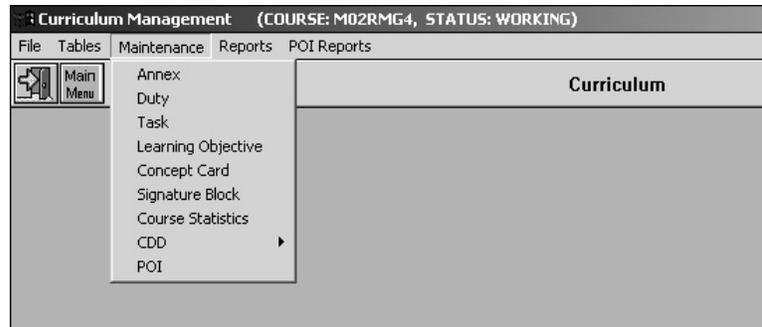

Figure 6-20. Maintenance Drop-down Menu
3. Choose the Maintenance option on the menu bar. This displays the Maintenance drop-down menu (Figure 6-20).